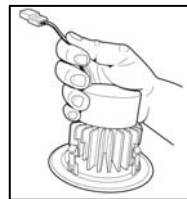

Figure 2
DO NOT LET THE MODULE HANG UNSUPPORTED BY THE ORANGE CONNECTORS. (Figure 2)
- While supporting the LED module, plug connector from the module into the mating connector just installed into the recessed can. Push the wires and mated connectors up into the recessed can. DO NOT LET THE MODULE HANG UNSUPPORTED BY THE ORANGE CONNECTORS. (See Figure 2)